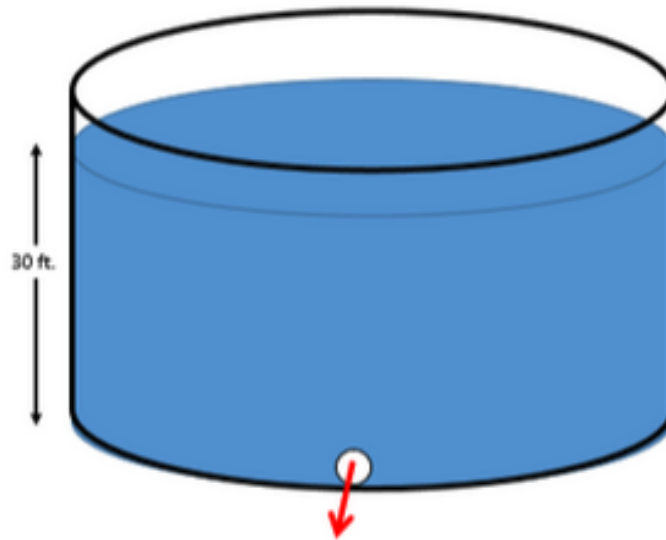

Figure 4: At-grade storage reservoir
10. (10 points) Figure 4 is a perspective view of a large at-grade water storage reservoir. The initial depth in the 50-foot diameter tank is $Z = 30$ feet. What is the average outflow rate in cubic-feet-per-second, if the tank drains through the hole in the side in 24 hours?